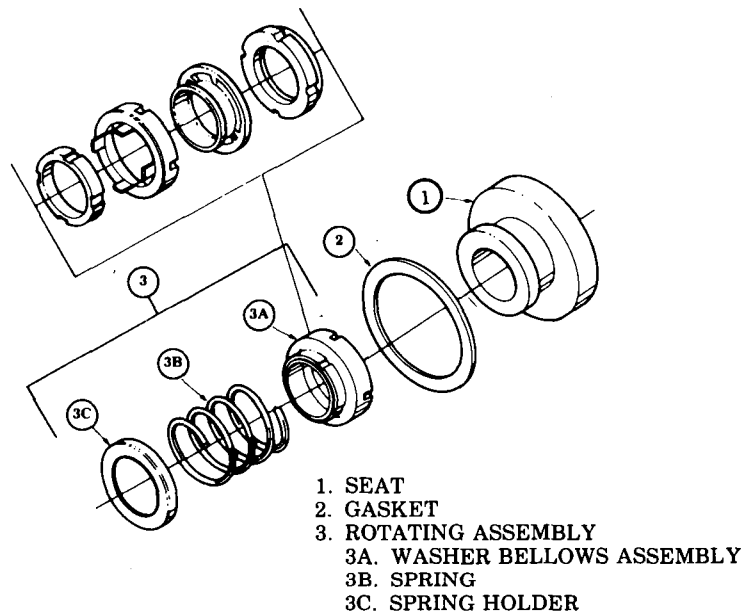

FIGURE 2. Crane Type 21 Mechanical Seal – Clamped Seat
Mechanical seals installed in Series T6D and T12D pumps are Crane Type 21 (Figure 2). Disassembly and assembly procedures for mechanical seal is as follows:
(Figure 2) Slide stationary Assembly, seat (1) and gasket (2) off power rotor shaft.
(Figure 2) Slide rotating assembly (3) off power rotor.
(Figure 2) Slide rotating assembly (3) on power rotor shaft next to sleeve (038).
(Figure 2) Slide mechanical seal seat (1) on power rotor shaft next to rotating assembly (3). Gasket (2) is to be installed in seal bore of cover (046).
- STEP 9. Remove bolts (047) and bearing retainer (043). Remove assembled power rotor (063) will include removal of truarc rings (042), ball bearing (049), spacer (048), mechanical seal (025), sleeve (038), spiral ring (097), sleve (096), O-ring (095) and spring pin (082).
- STEP 10. Remove gasket furnished with mechanical seal (025) from bore of inboard cover (046).
- STEP 11. Disassemble power rotor (063) as follows:
- a. Remove outer truarc ring (042) from groove of power rotor (063).
- b. Press ball bearing (049) off power rotor (063) shaft.
- c. Remove inner truarc ring (042) from groove of power rotor (063). Remove spacer (048) from power rotor (063) shaft.
- d. Remove mechanical seal seat and rotating assembly. NOTE: Refer to Mechanical Seals, page 2, and Figures 2 for proper disassembly procedures.
- e. Remove sleeve (038) from power rotor (063) shaft.
- f. Remove spiral ring (097) from groove of piston (020). Remove sleeve (096). Remove O-ring (095) from groove of piston (020). NOTE: Piston (020) furnished as part of power rotor (063) and is not serviced separately.
STEP 12. Remove bolts (004), inboard cover (046) and gasket (009) from case (001).
STEP 13. Remove retainer (100) and retaining ring (101) from pump case (001).
STEP 14. Remove balance piston housing (022) with O-ring (028), balance piston bushing (098) and idler stop (099). Remove idler stop (099) from balance piston housing (022) by removing capscrews (078). Remove balance piston bushing (098) from balance piston housing (022). Remove O-ring (028) from groove of balance piston housing (022).
STEP 15. Remove tube (026) from either idler stop (099) or housing (024).
STEP 16. Remove stop pin (006) with Dyna seal (007) from case (001).
NOTE: Prior to assembly of pump, all parts should be cleaned and inspected for nicks and burrs. Replace all worn or damaged parts. The IMO Pump Division recommends automatic replacement of O-rings (028, 089 and 095), gaskets (009, 085 and 088), Dyna seal (007), mechanical seal (025) and ball bearing (049) when these parts are disturbed from their previously installed position. Refer to pump assembly drawings, Figures 5 and 6; mechanical seal drawings, Figure 2; and List of Material, Table 3, during assembly. Coat all parts with light lubricating oil to assist in assembly. Assembly procedures for Figures 5 and 6 are identical.
STEP 1. Install O-ring (028) in groove of housing (024). Install tubes (026) in housing (024). Install housing (024) in pump case (001), ensuring that housing is properly aligned with bore for stop pin (006) in case (001). Install stop pin (006) with Dyna seal (007) in case (001).
- a. Install O-ring (095) in groove of piston (020). Install sleeve (096) on piston (020), ensuring that spring pin (082) in piston (020) engages slot in sleeve (096). Install spiral ring (097) in groove of piston (020).
- b. Install sleeve (038) on power rotor (063) shaft next to piston (020).
- c. Install mechanical seal (025) rotating assembly (3, Figure 2) on power rotor (063) shaft in accordance with procedures outlined in Mechanical Seals, page 2, Refer to Table 1 and Figure 2.
- d. Install mechanical seal stationary seat (1, Figure 2) on power rotor (063) shaft.
- e. Install spacer (048) on power rotor (063) shaft. Install inner truarc ring (042) in groove of power rotor (063).
- f. Press ball bearing (049) on power rotor (063) shaft, pressing only on inner race of bearing, until bearing (049) is next to installed truarc ring (042).
- g. Install outer truarc ring (042) in groove of power rotor (063) shaft to retain bearing.